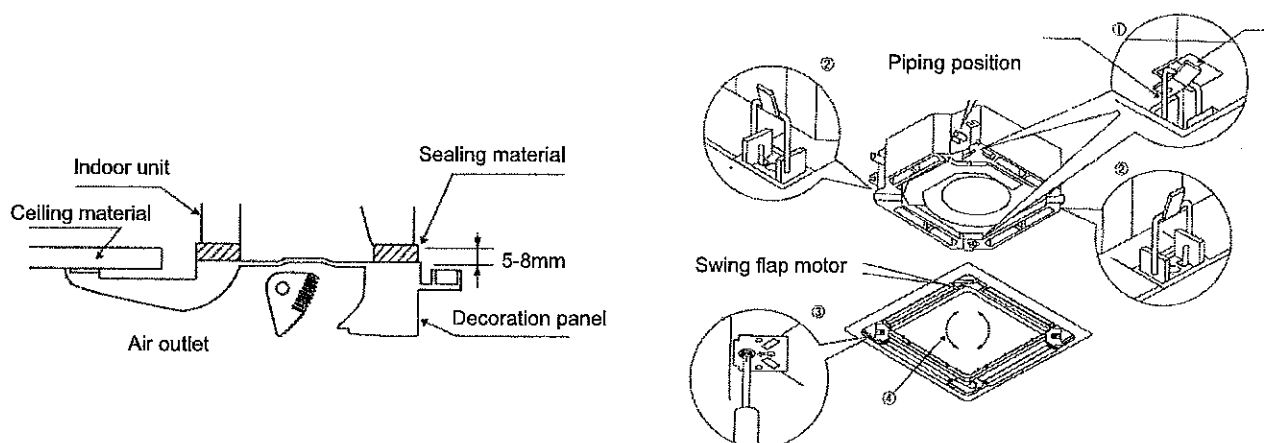

Fig.4
(1) Set the decoration panel to the indoor unit body by matching the position of the swing flap motor of the decoration panel to the piping position of the indoor unit as shown in Fig.4.
(2) Install the decoration panel
- Adjust the decoration panel by turning it to the arrowed direction in Fig.4 so that the ceiling opening is completely covered.